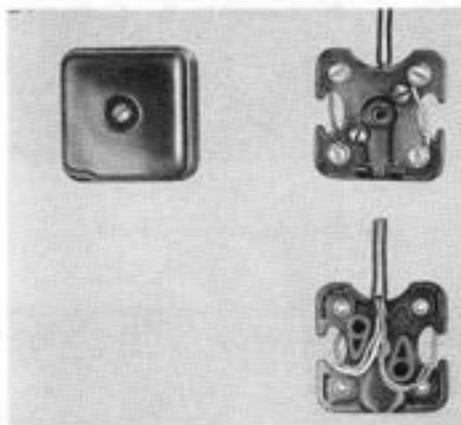

Fig. 1—42A Connecting Block
2.01 Identification and ordering information for connecting blocks is covered in this section in Fig. 1 through 4, Tables A and B, and in paragraphs 2.02 and 2.03.
A. 42A Connecting Block (Fig. 1)
- (1) Strip jacket back approximately 4 inches from end and separate conductors.
- (2) Place block over conductors and secure with two fasteners.
- (3) Dress conductors and make connections as shown in Table C and Fig. 1.